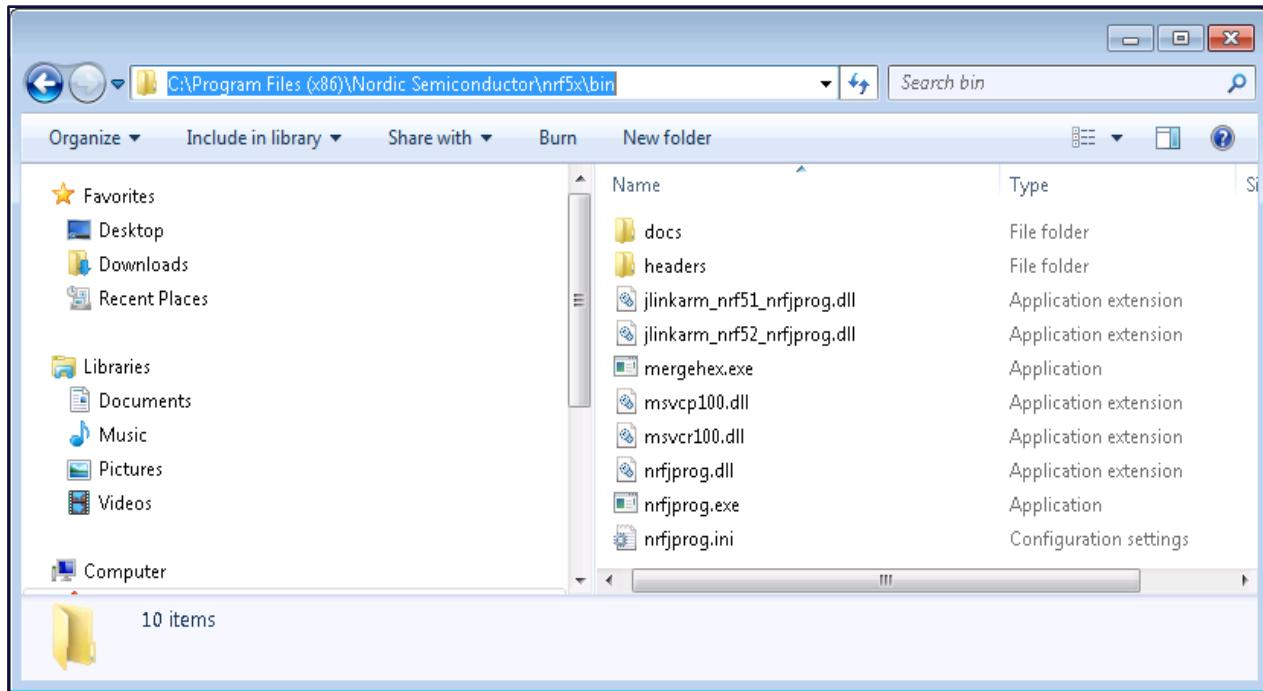

Figure 2: *nrfjprog executable location*
5. Once downloaded, the **nrfjprog** executable can be found at [C:\Program Files \(x86\)\Nordic Semiconductor\nrf5x\bin](C:\Program Files (x86)\Nordic Semiconductor\nrf5x\bin) (Figure 2).